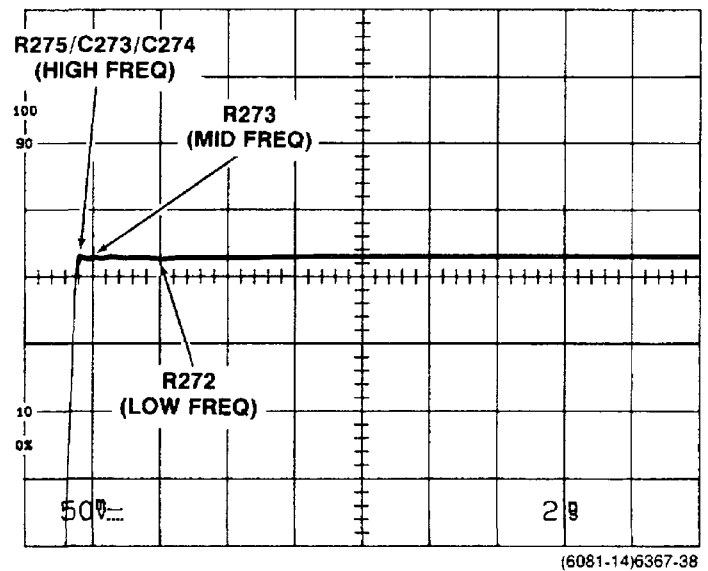

Figure 5-1. Areas of waveform affected by HF compensation.
- f. ADJUST–DLY LINE HF COMP adjustments (R272, R273, R275) for flattest response and (C274, C273) for sharpest front corner with minimum overshoot. Figure 5-1 shows the area of the waveform affected by each adjustment.